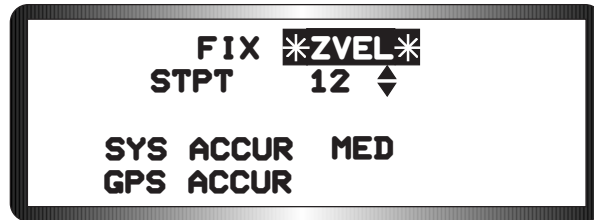

Figure 2-10 Zero Velocity Update
**Zero Velocity Update.** The pilot performs a ZVEL update when the aircraft is on the ground and not moving. ZVEL updates the system velocity only and does not affect the present position estimate. To do a ZVEL update, the pilot selects the ZVEL submode on the FIX DED page (Figure 2-10) and mode selects with the M-SEL key. The ZVEL submode should remain selected between 40 seconds and 2 minutes for best results. The pilot then deselects ZVEL by pressing the M-SEL button, dobbering right to SEQ, or exiting the FIX page. The ZVEL update is especially useful when a degraded alignment has been accepted.